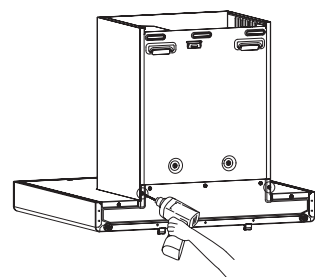

Fig.8
2. Remove the fan cover and decorative hood (only for EMS6008-C): remove the 2 screws that fix the fan cover behind the main body with a screwdriver(see Fig.8), and then grab the fan cover and decorative hood with both hands to take them out upward(see Fig.9);